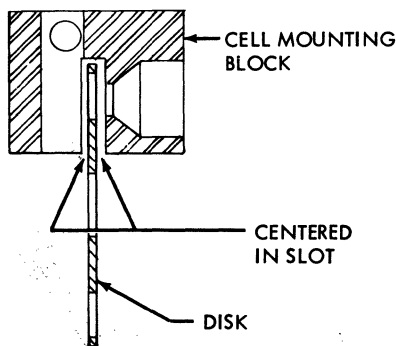

Figure 3-2. Disk Centering
- b. Reinstall disk, and slightly tighten mounting screw. Be sure disk is located in center of solar cell mounting block. If care has been taken in removing and reinstalling cell unit and disk, it will be located in same place (in reference to cell mounting block) as it was originally. See Figure 3-2.